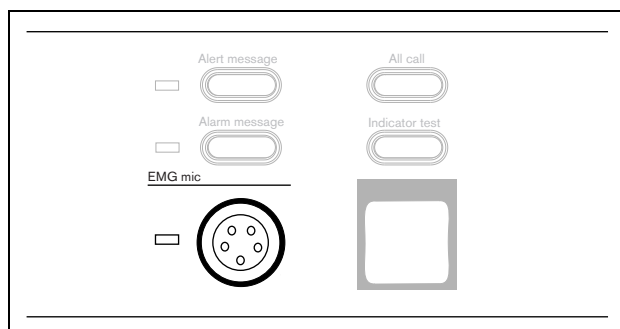

figure 27.7: Emergency microphone indicator
- The red EMG mic indicator is lit (see figure 27.7).